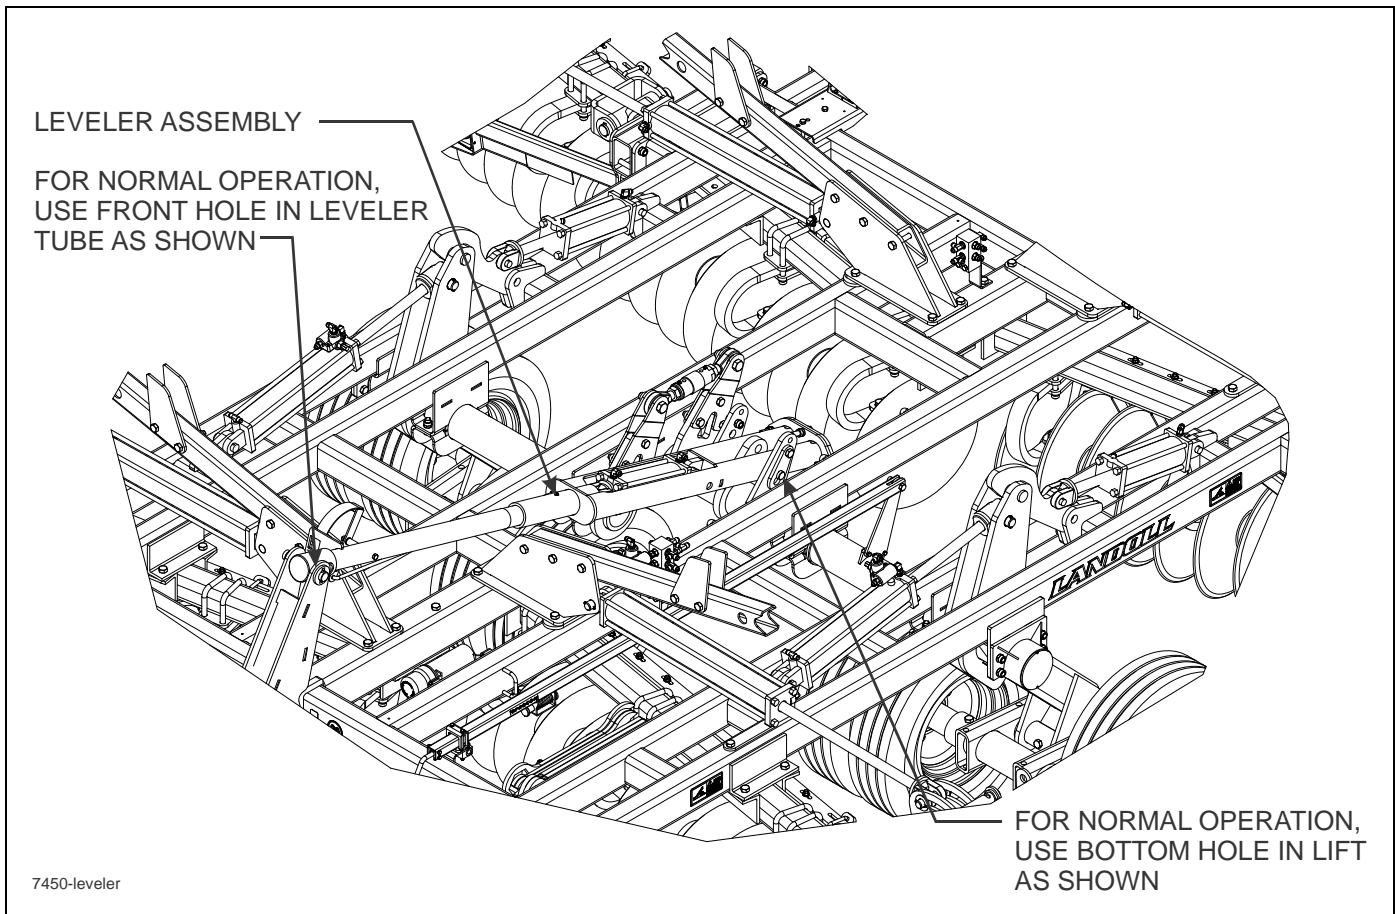

Figure 4-13: Leveling (Front to Rear)
4. For normal operation the leveler will be set in the bottom hole on the lift and the outer hole on the leveler tube (See Figure 4-13.)